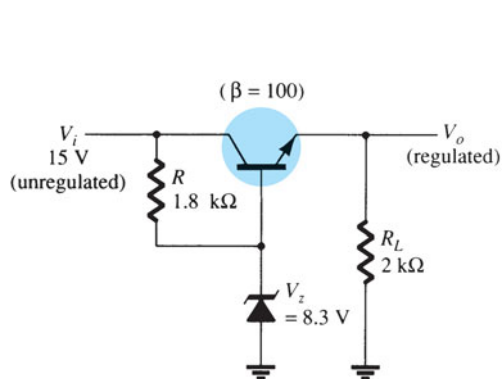

FIG. 15.42
- *19. Calculate the output voltage and Zener diode current in the regulator circuit of Fig. 15.42.